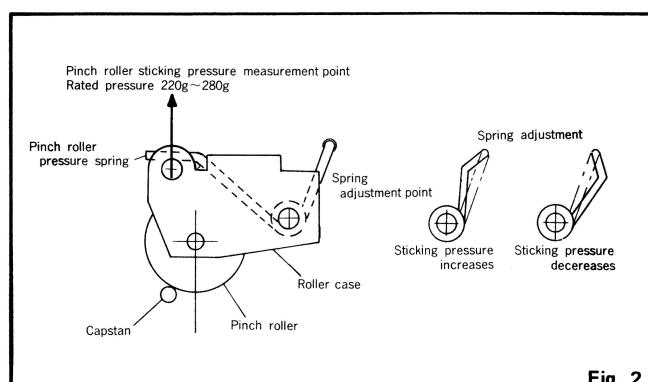

Fig. 2
2. Adjusting pinch roller pressure (See Fig.2)